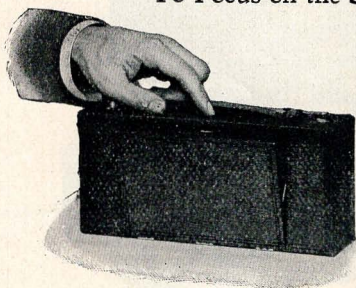

FIG. 1.—Opening the Front.
1. Press the concealed button as shown in Fig. 1, and push down the bed of the camera to the limit of motion.